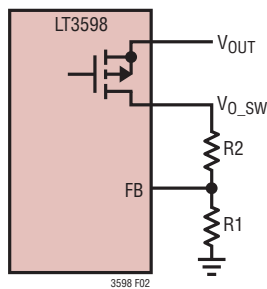

Figure 2. Overvoltage Protection Voltage Feedback Connections
**FB (Pin 11):** Feedback Pin for Overvoltage Protection. Reference voltage is 1.230V. Connect the resistive divider tap here. Minimize trace area at FB. Set  $V_{OUT}$  according to  $V_{OUT} = 1.230(1 + R2/R1)$  when overvoltage protection occurs (see Figure 2).
The LT3598 uses the FB pin to provide regulated overvoltage protection when all LED strings are open. A resistor divider is connected between the  $V_{O\_SW}$  pin and ground (Figure 2). There is an internal PMOS switch between  $V_{OUT}$  and  $V_{O\_SW}$ , which is controlled by the PWM signal. The PMOS switch addition prevents the feedback resistor divider from draining the output capacitor during PWM off-period, allowing for a higher dimming range without falsely tripping the  $\overline{OPENLED}$  flag. It also reduces the system current in shutdown. This PMOS has about 1k resistance, so select FB resistors taking this resistance into account.
To set the maximum output voltage, select the values of R1 and R2 (see Figure 2) according to the following equation: